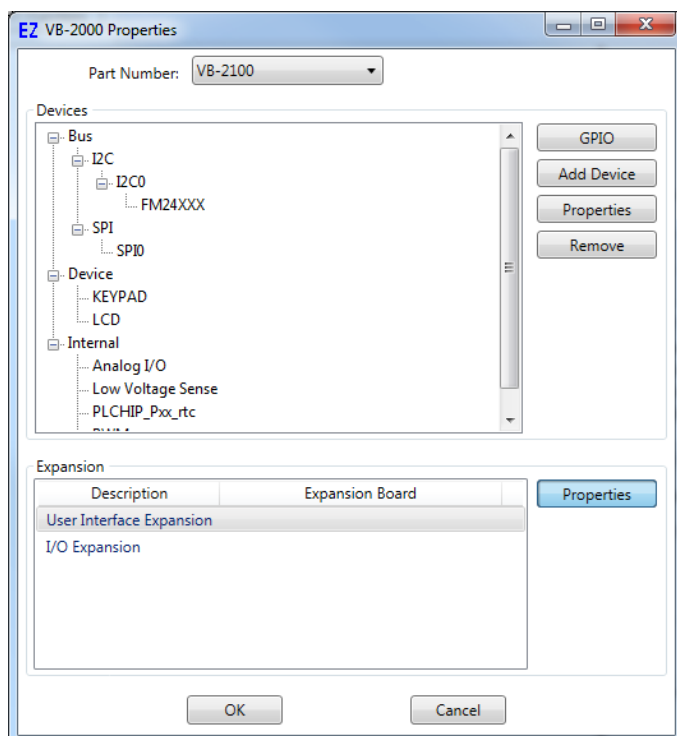

Figure 2-34 - VB-2000 Properties - Expansion Pane
3. Highlight the **User Interface Expansion** in the list and click the **PROPERTIES** button on the right side of the Expansion pane in the VB-2000 Properties Window. Refer to Figure 2-34. The User Interface Expansion Properties Window will open.